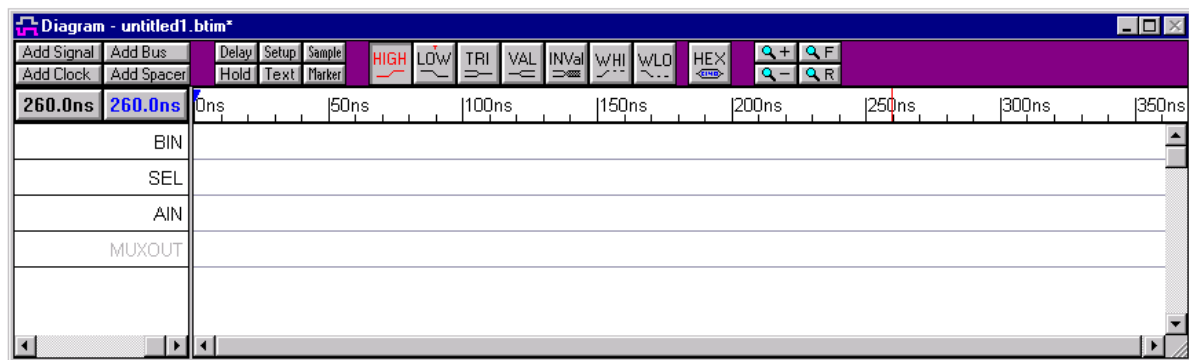

Figure 8 - WaveFormer Lite Diagram window
2. The Graphical Test Bench Generator will display the signals you assigned to your design in the schematic (see Figure 8).